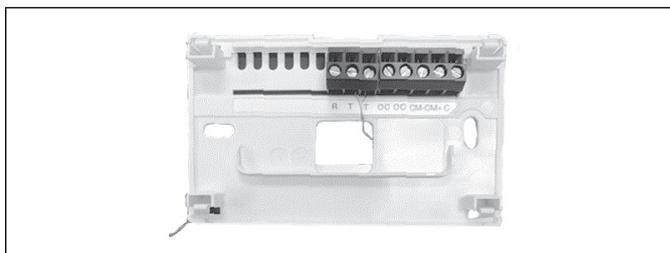

Figure 1. Front of Back Plate
4. Install one wire of the 10k thermistor in each of the T terminals as shown in Figure 1.